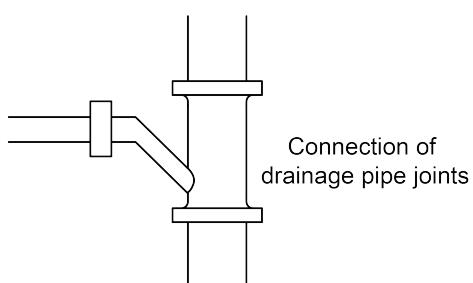
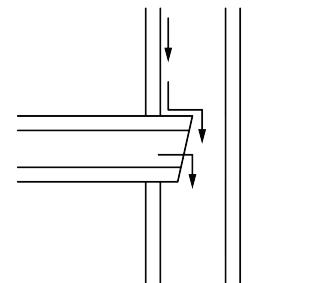

Fig 4.13
Fig 4.15
- (9) The horizontal pipe can be connected to vertical pipe in the same level; please select the connection way as shown in Fig4.13~ Fig4.15
① : Connection of drainage pipe joints (Fig 4.13)
③ : Inserting pipe connection (Fig 4.15)
- (10) The installation height of raising pipe for drainage should be lower than 850mm. The gradient from raising pipe towards drainage direction should be at least 1%~2%. If the raising pipe is vertical with the unit, the raising height should be less than 800mm.